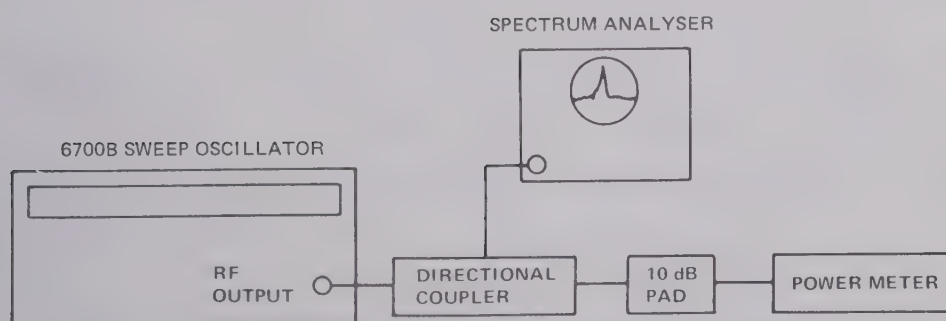

Fig. 2 ΔF vs. 10 dB change in r.f. level test set-up
- (1) Connect the equipment as shown in Fig. 2. A high resolution frequency meter may be substituted for the spectrum analyser.
- (2) Set type 6700B controls as follows: